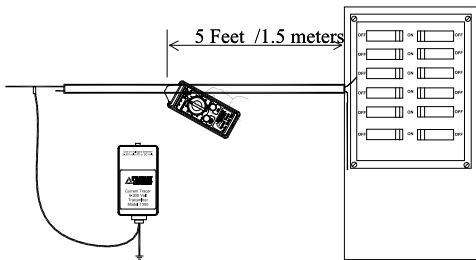

Fig.7 Receiver distance from circuit breaker panel when tracing conduit
7. Sweep the receiver across large areas until its signal locates the conduit. Narrow down the location of the conduit by adjusting the range switch (see Figs. 7) and changing the angle of the receiver.
Since the feeder panel may radiate the magnetic field to the nearby conduit, make sure the probe is always used more than 5 feet (1.5 meters) away from the circuit breaker panel during this application (see Fig.7).